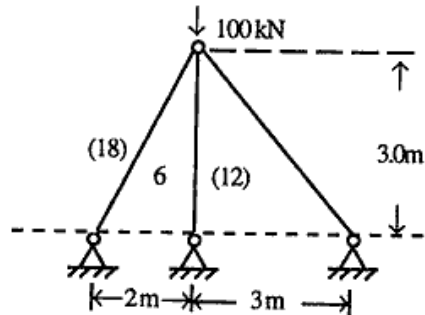

Figure 3
3. Analyse the pin-jointed frame of figure 3 by the force method.